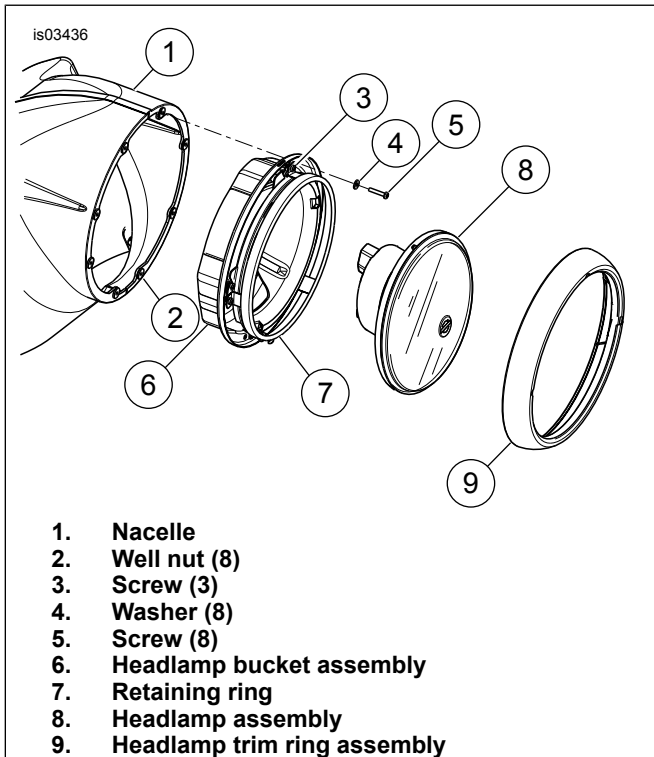

Figure 6. Install Headlamp
15. See Figure 6. Install the previously removed headlamp assembly (8) into the headlamp bucket (6) using the new retaining ring (7) and three screws (3).